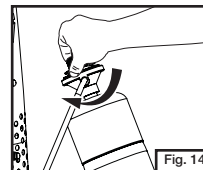

Fig. 14
- Turn off regulator valve (Fig. 14) Disconnect propane cylinder after finishing brewing.